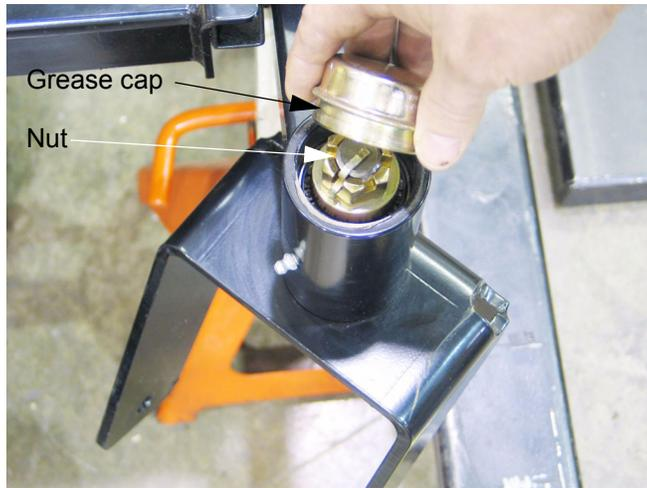

Figure 27.5
27.5. The **caster yokes** each pivot on a pair of Timken tapered roller bearings. They can be reached for service by removing the grease cap that covers each one. See Figure 27.5.